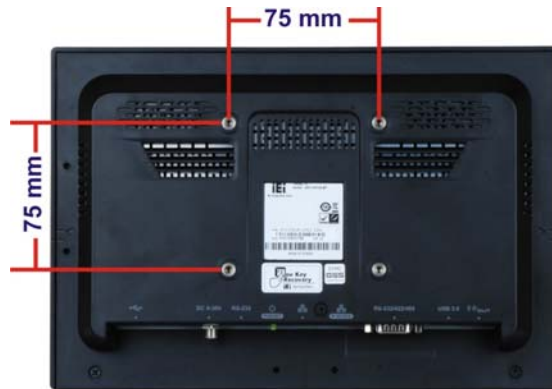
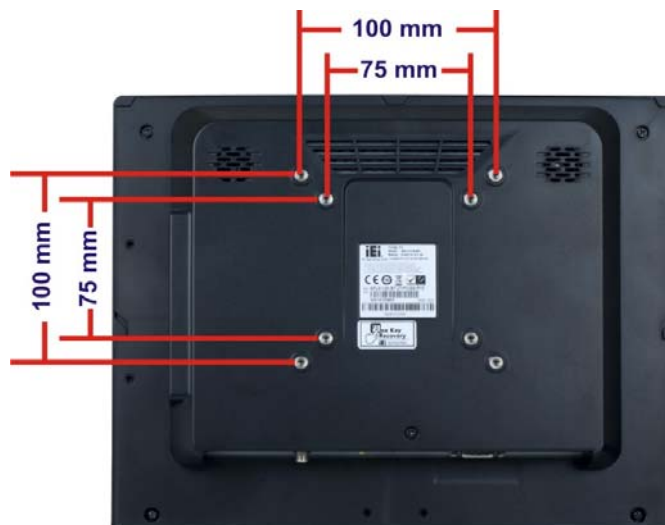

Figure 3-28: Arm Mounting Retention Screw Holes (10.1")
Figure 3-29: Arm Mounting Retention Screw Holes (12.1" & 15.6")
Step 3: Align the retention screw holes on the mounting arm interface with those in the flat bezel panel PC (**Figure 3-28** and **Figure 3-29**).